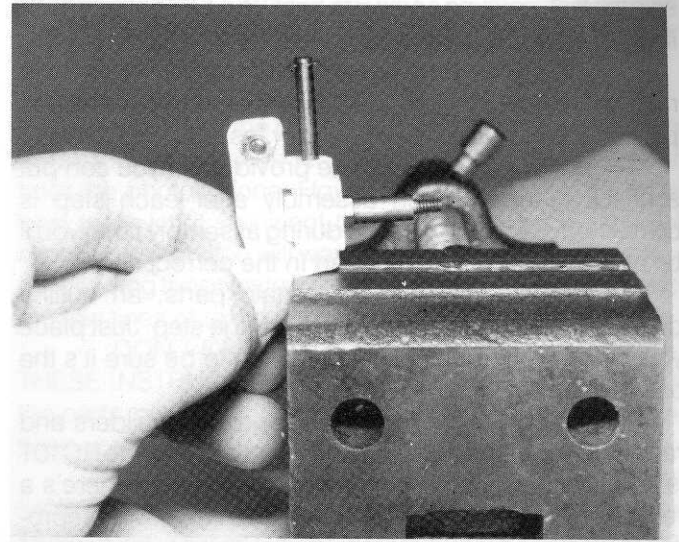

**Fig. 3**
**Fig. 3** Push the #6218 front axle from Bag 7-1 into the #6217 steering block as shown so the hole in the axle lines up with the hole in the steering block. It may push together with your fingers. If not, LIGHTLY tap it into the hole. Assemble the right hand side in the same way.